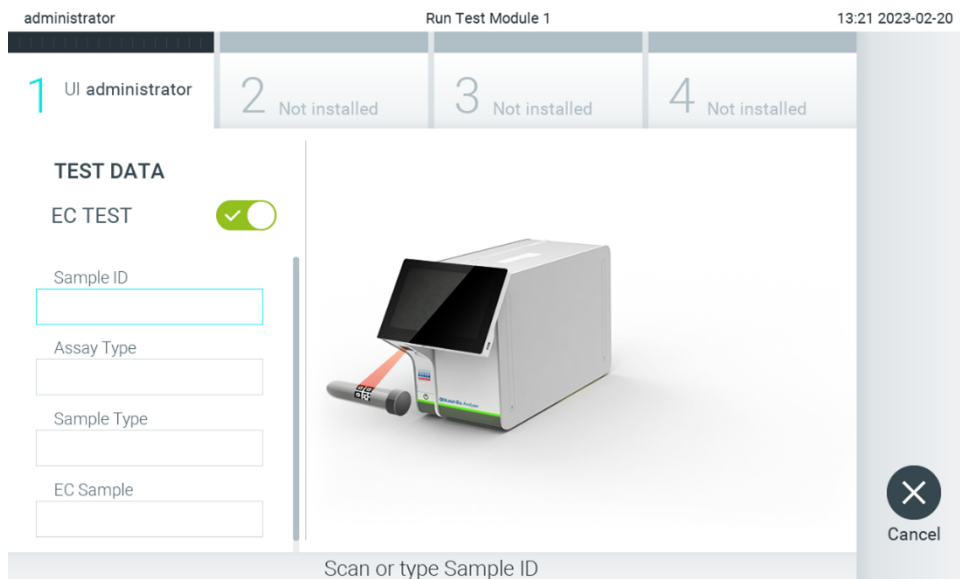

Figure 92. Turning on the EC Test toggle button to enable an EC test.
2. Turn on the **EC Test** toggle button (Figure 92).
- When prompted, scan the sample ID barcode using the bar code reader that is integrated into the Operational Module (Figure 92).